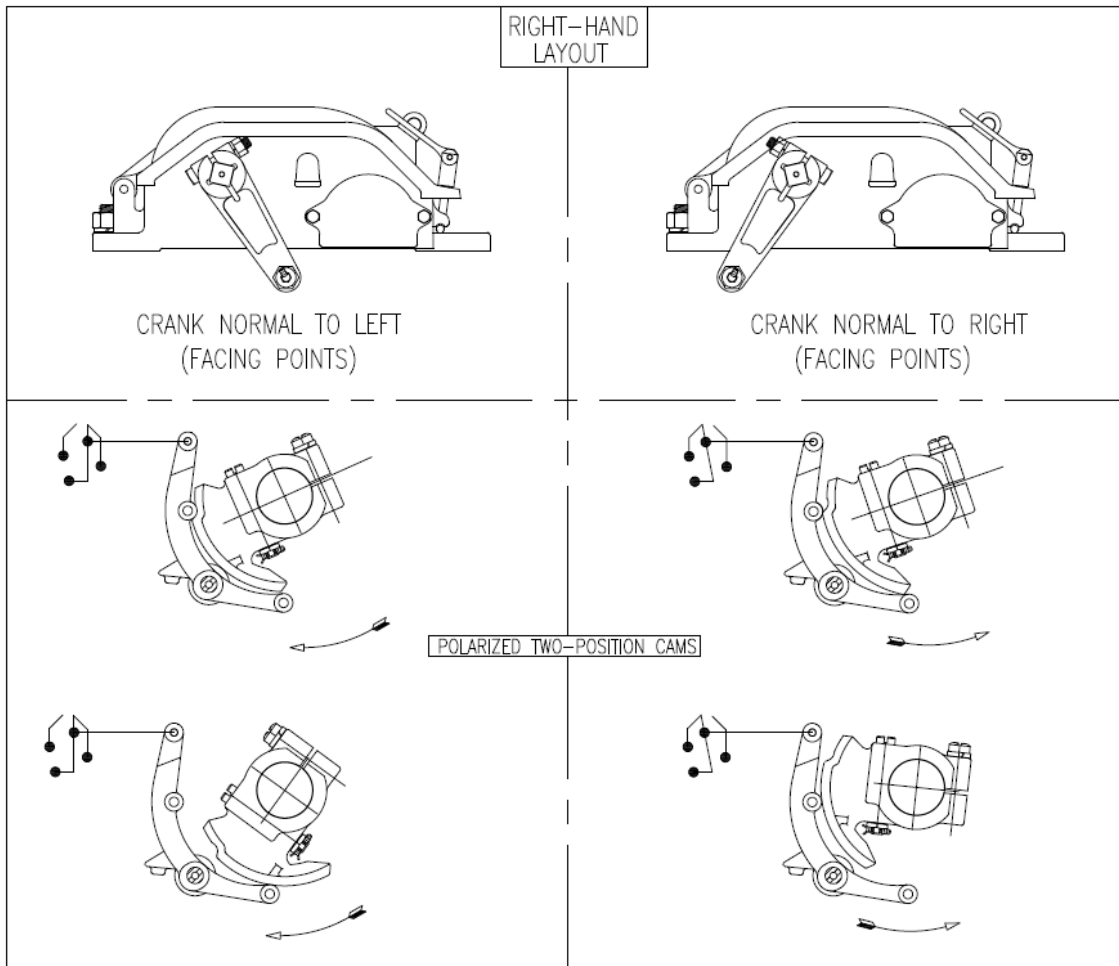

FIGURE 2-2
Reverse position of each contact set is opposite to the normal position defined in the preceding NOTE and shown in Figure 2-2.
After the 856-switch circuit controller has been installed and adjusted, it must be lubricated to ensure optimum operation. Figure 2-2 illustrates the 856- switch circuit controller lubrication points, and the following steps outline the lubrication procedures.
- A. Using a hand grease gun apply grease, Part No. 857500-CCL or equivalent, to the alemite fittings for the camshaft bushings and rocker shaft shown in Figure 2-2.
- D. Check that there are no signs of moisture accumulation within the 856- switch circuit controller compartment. If moisture is present, check to see if the drain plug (Figure 2-2) is installed in the drain hole. If so, remove the drain plug to allow moisture to drain out of the compartment. The plug may be removed by grasping it with a pair of pliers and pulling it out of the drain hole. Replace plug by pushing it back into the drain hole.